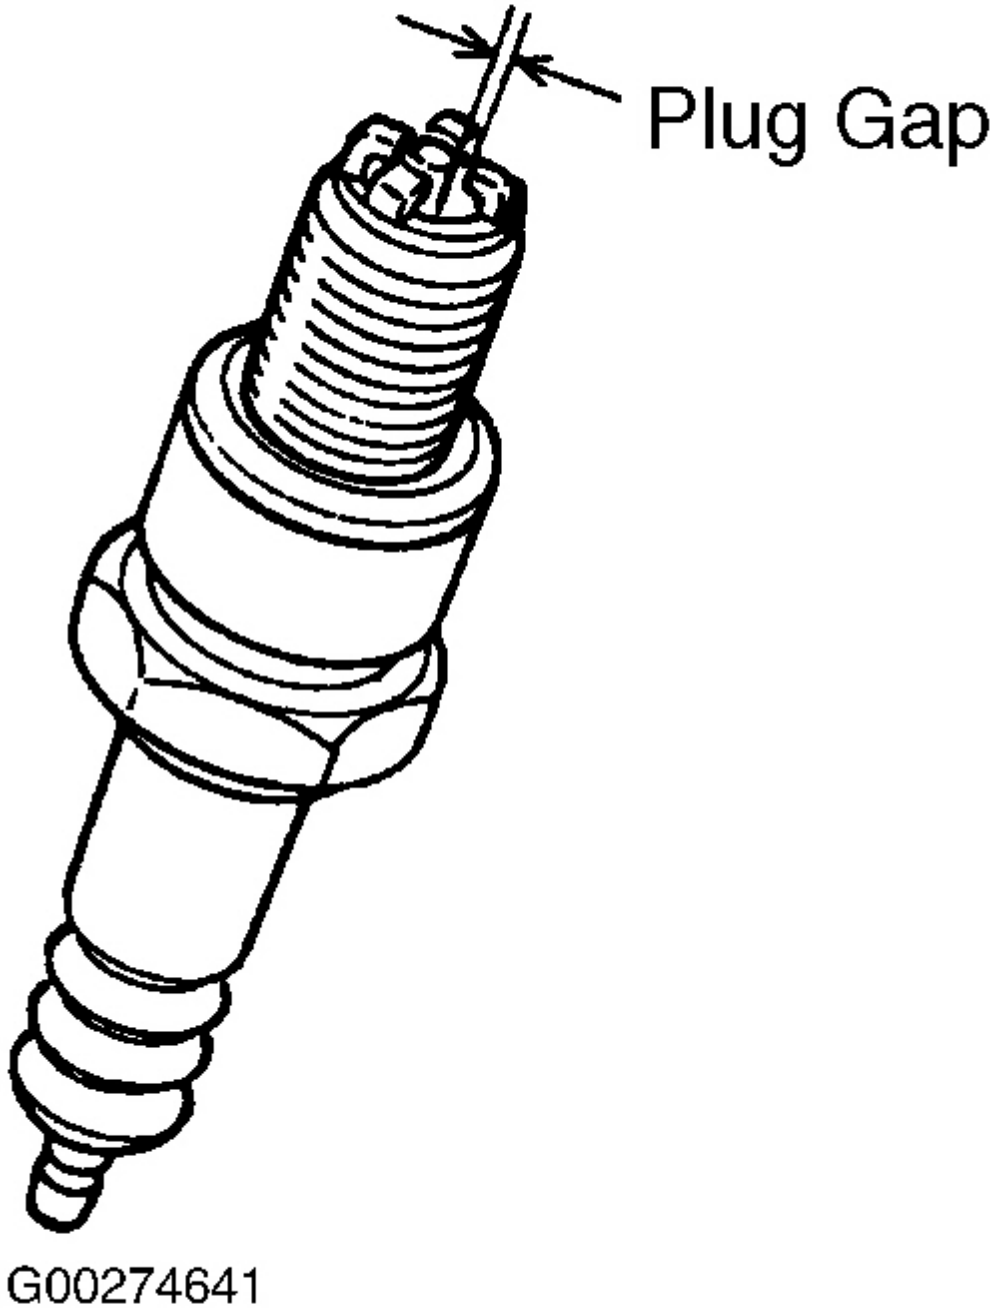

Fig. 1: Identifying Spark Plug Gap
0.055 (1.4)	11 (15)
(1) See Fig. 1 .